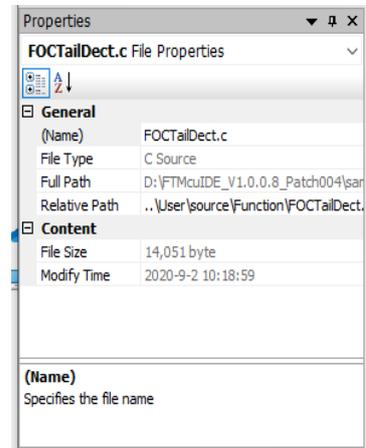

Figure 1-47
- General: as shown in Figure 1-47
- Content: as shown in Figure 1-47